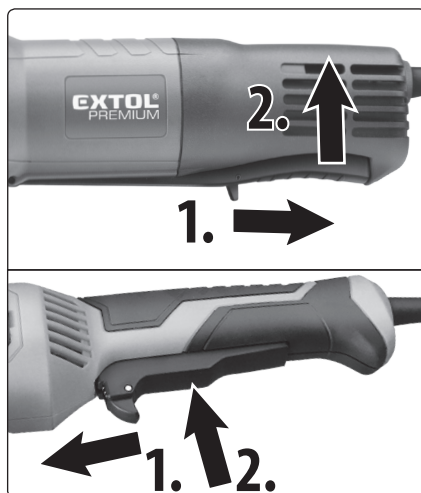

Fig.15; step 1. unlocking, step 2. starting
- The angle grinder may have a trigger switch on the underside of the main handle, where pressing the trigger switch must be preceded by unlocking the trigger switch as shown in fig. 15, steps 1 and 2. This trigger switch design is namely present on larger and large angle grinders, and for safety reasons, it is not possible to lock the trigger switch in the „on“ position.